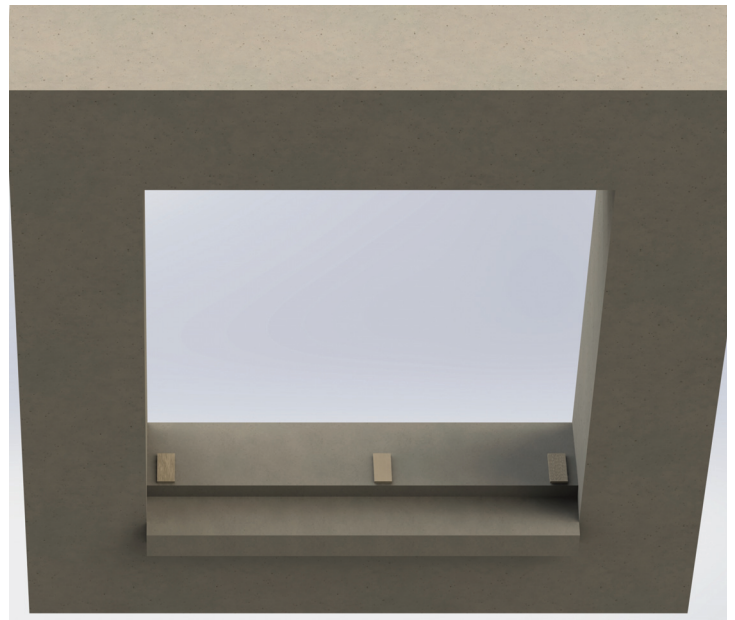

Fig. 2
- D. Check the fit of the panning making sure the conditions are level, the installer can pre-apply the shims to the sill condition prior to installation of the pre-set panning. (Fig. 2)